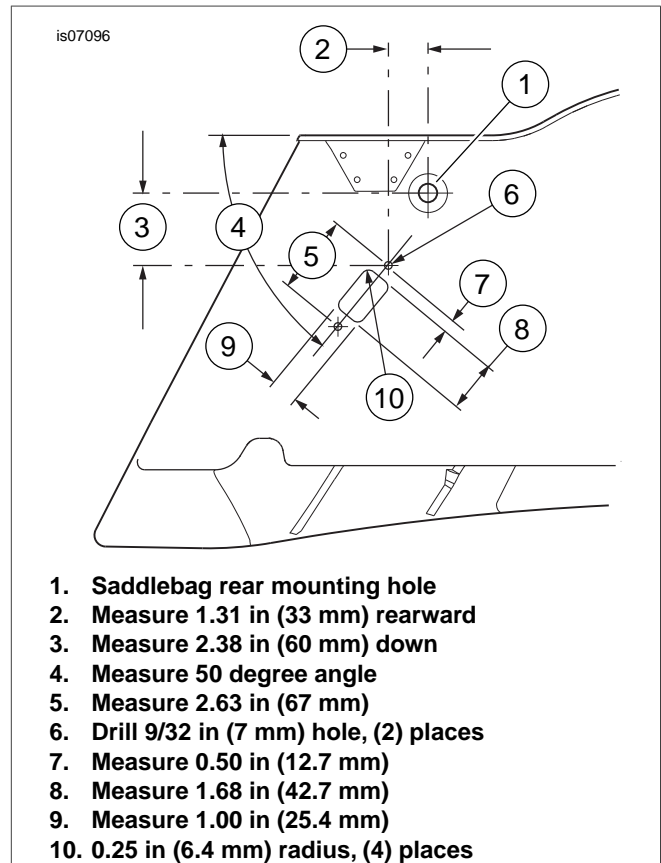

Figure 5. Cut Connector Holes in Inboard Saddlebag Wall (Left Bag Shown)
- See Figure 5. Lay a strip or strips of masking tape in the approximate area of the holes to be made in the inboard saddlebag wall for the saddlebag jumper harness connector. Very carefully measure and mark the hole locations as shown.